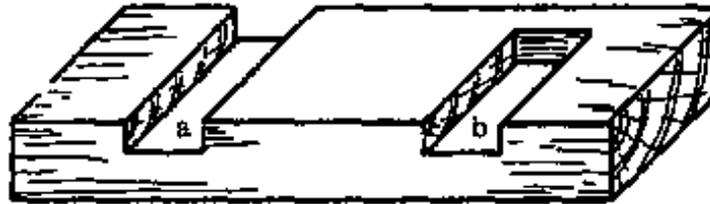

Fig. 4
- **TRENCH:** This is a recess cut along the grain. A trench can also be either through (Fig. 4, a) or stopped (Fig. 4, b).